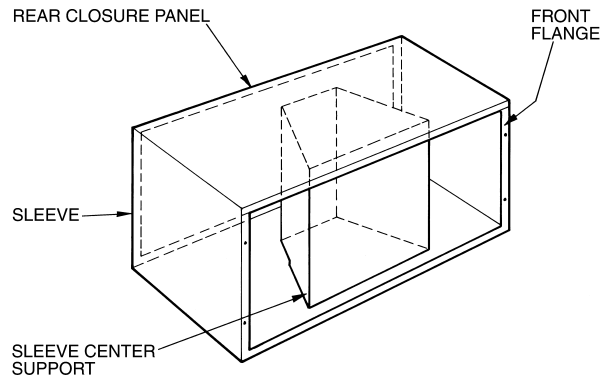

Fig. 1 — Wall Sleeve with Sleeve Center Support
1. Remove sleeve center support. See Fig. 1. If chassis is not to be installed at this time, save sleeve center support. If chassis is to be installed at this time, discard sleeve center support.